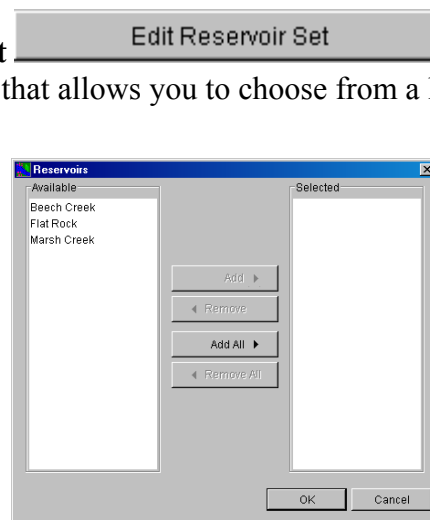

Figure 11.58 Reservoir Guide Curve Editor, Edit Reservoir Set to Select Reservoirs to Provide Flood Control Storage Credit
4. In the **Available** list, click on the name of the reservoir(s) you want to use for flood control storage credit (Figure 11.58), then click **Add** to move it to the **Selected** list. Click **OK** to close the selection dialog box.